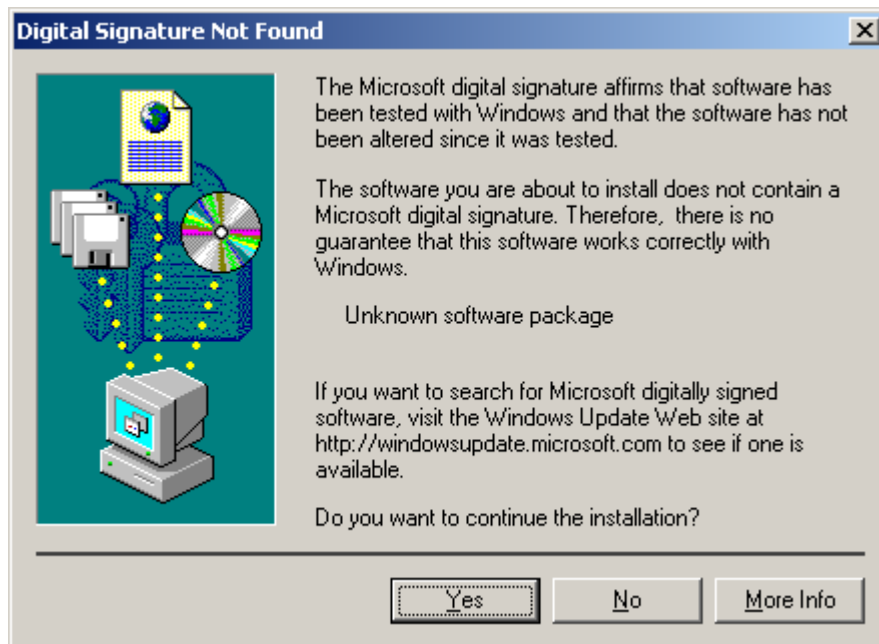

Figure 6-29: RAID Driver Digital Signal
Step 7: A “Digital Signal Not Found” screen appears (**Figure 6-29**). Click **YES** to continue the installation process.